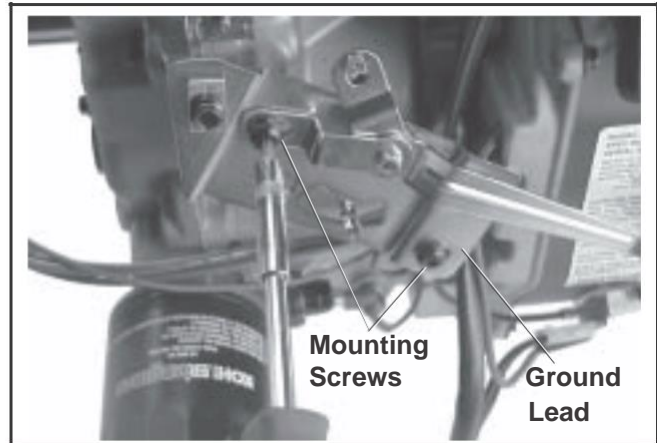

Figure 9-8. Removing Throttle Control Bracket.
1. Remove the two mounting screws securing the throttle control bracket and ground lead (some models) to the crankcase. See Figure 9-8.
2. Mark the governor spring hole location and unhook the spring from the lever of the throttle control bracket. See Figure 9-8 and 9-9.